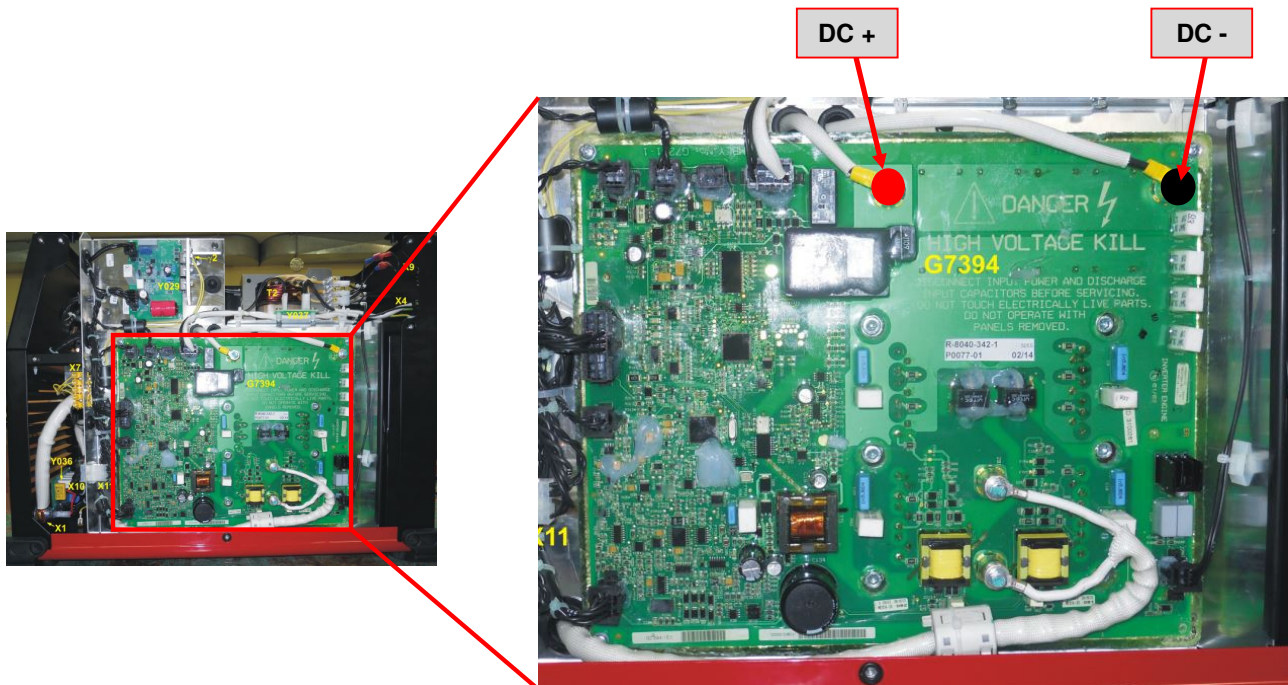

Figure 1
4. Locate the two terminals **DC+** and **DC-** on the Switch Board on the right side of the machine (See **Figure 1**).